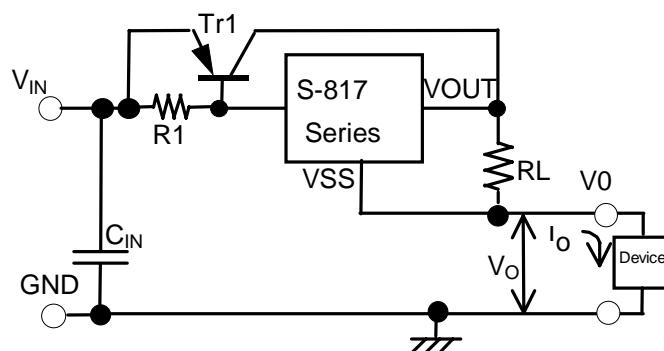

Figure 11 Constant Current Circuit
The S-817 Series can be configured as a constant current circuit. See Figure 11. Constant amperage  $I_o$  is calculated using the following equation
Please note that it is impossible to set constant amperage  $I_o$  in case of circuit (1) of Figure 11 to the value exceeding the drive ability of the S-817.
However, circuit (2) of Figure 11 is an example to set constant amperage to the value exceeding the drive ability of the S-817. Circuit (2) incorporates a current boosting circuit. The maximum input voltage of the constant current circuit is the value obtained by adding 10 V to voltage  $V_O$  of the device. It is not recommended to attach a capacitor between the S-817 power source  $V_{IN}$  and  $V_{SS}$  pins or between output  $V_{OUT}$  and  $V_{SS}$  pins because rush current flows at powering on. An example of input voltage between  $V_{IN}$  and  $V_O$  in circuit (2) vs.  $I_o$  current characteristics